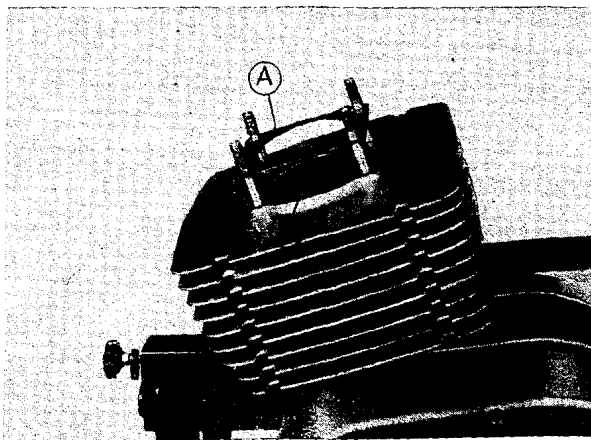

Fig. 73. Fitting the shims
On top of the cylinder liner, a collar (B) of 1.5 mm is turned in a lathe, see Fig. 73, which centres the shims and prevents that the temperature of combustion directly contacts the aluminium shims.